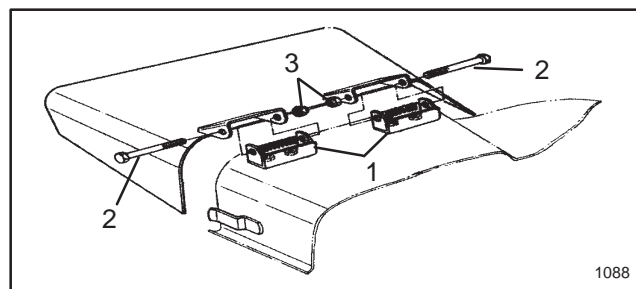

Figure 3
1. Remove capscrews, lock nuts and springs securing deflector mounts to pivot bracket. Remove deflector (Fig. 3).
2. Remove carriage bolts, lock washers and nuts securing pivot bracket to housing (Fig. 3).